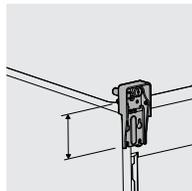

Figure 3
8. Measure the dimension shown in Figure 3. This is the distance from the cabinet face to the back of the lower hinge bracket. Transfer this dimension to the opposite side of the cabinet and make a reference line (for installing the lower hinge). This is important for proper door operation.